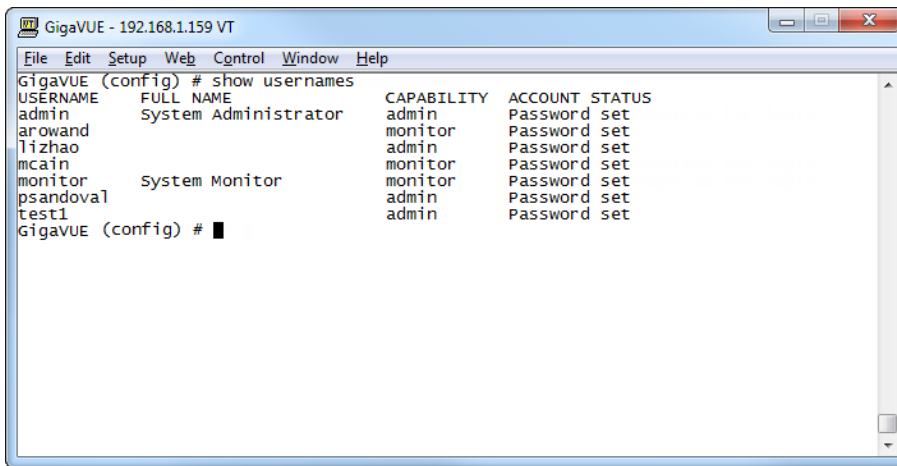

Figure 17 Reviewing the User List
- Once you have configured these basic user accounts, use the **show usernames** command to review your settings. Figure 17 Reviewing the User List shows some sample **show usernames** output after several users have been added.